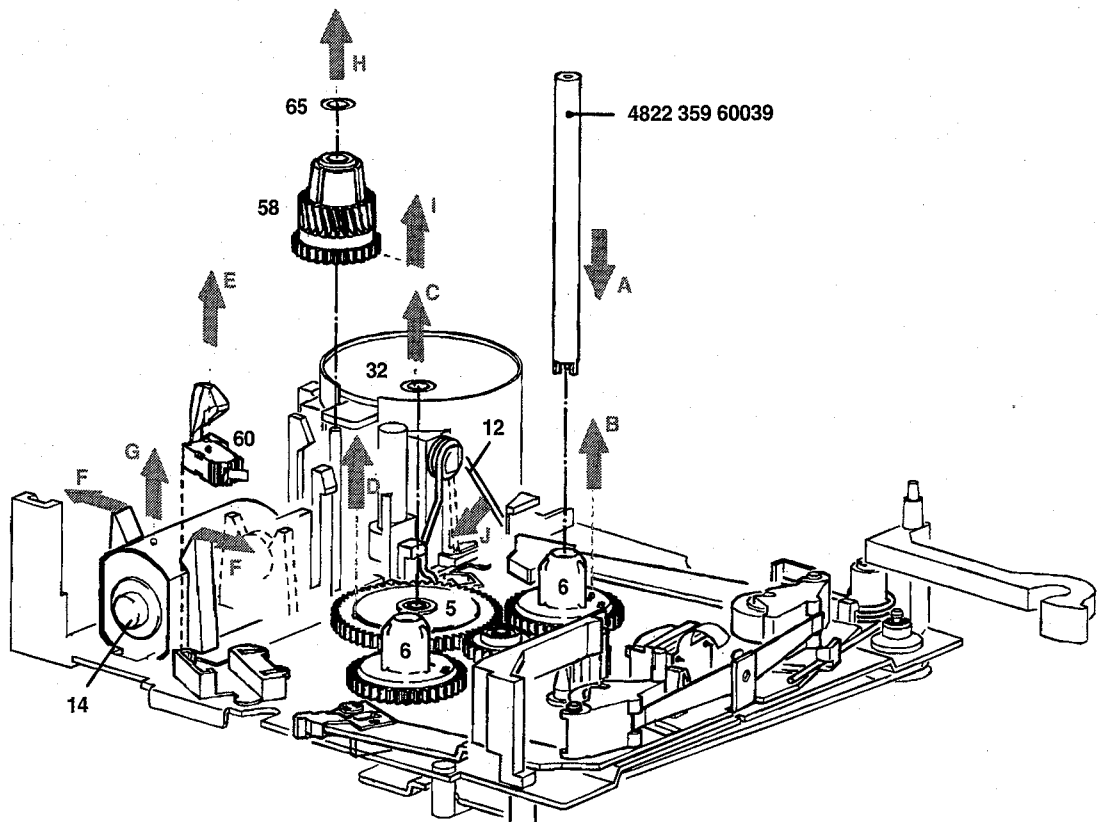

Fig. 2
- 1.1 Lift in eject position - put leg of eject spring (12) into mounting position acc. fig. 8 and fig. 2 - J
Desolder connection cables and lever up motor out of its clamps (fig.2-F,G)
- 5.3 Pull clutch from the axle (fig.2-H,I)
6. Anchor holder (8) and magnet double (1)
- 8.4 Unclamp and pull up wheels with puller (fig.2-A,B)
Puller for clutch (fig.2)	4822 395 60039